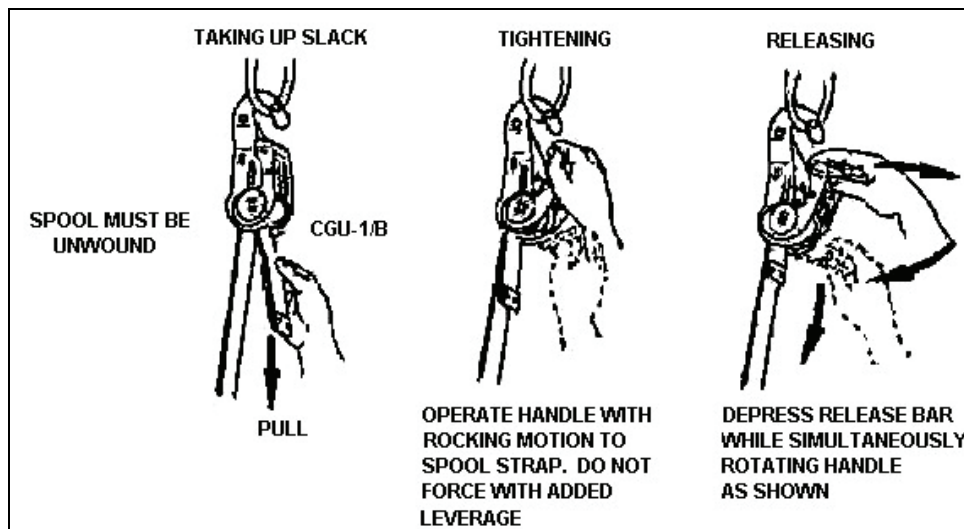

Figure 3-4. CGU-1/B Tie-down Devices
5. Install CGU-1/B tie-down devices (see Figure 3-4).